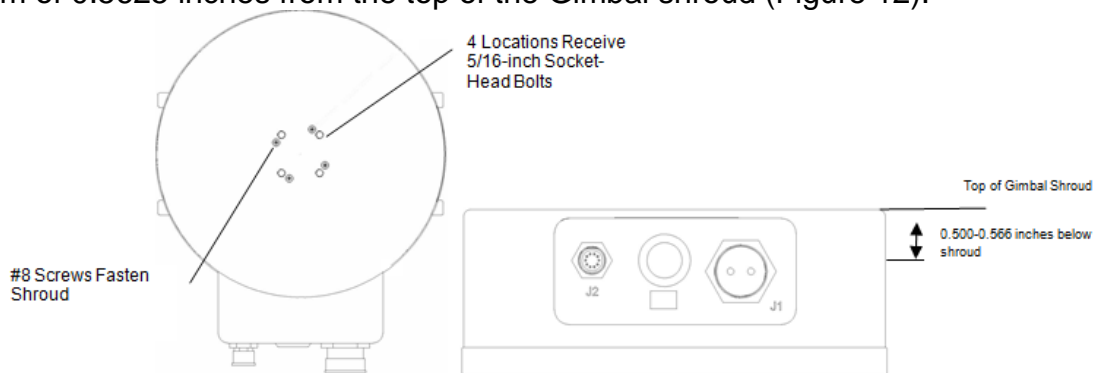

Figure 12 Top and Side View of Gimbal Shroud
For applications where Spectrolab dovetail is not used, #8 screws hold the shroud in place and are meant for anti-rotation. For mounting purposes, 4- 5/16ths-inch -24 UNF locations are provided to attach the customer-provided mounting fixture. When mounting the unit, the four (4) 5/16ths-inch -24 UNF bolts shall penetrate a minimum of 0.500 inches and a maximum of 0.5625 inches from the top of the Gimbal shroud (Figure 12).